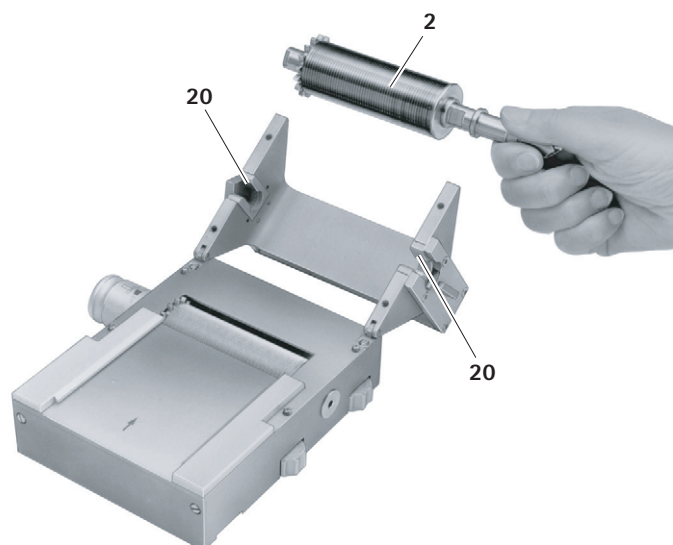

Fig. 4
- Turn cutting cylinder **2** while pulling it out of bearings **20**, see Fig. 4. This completes the dismounting of cutting cylinder **2**.
- Insert the cutting cylinder **2** into the two bearings **20**, see Fig. 4.